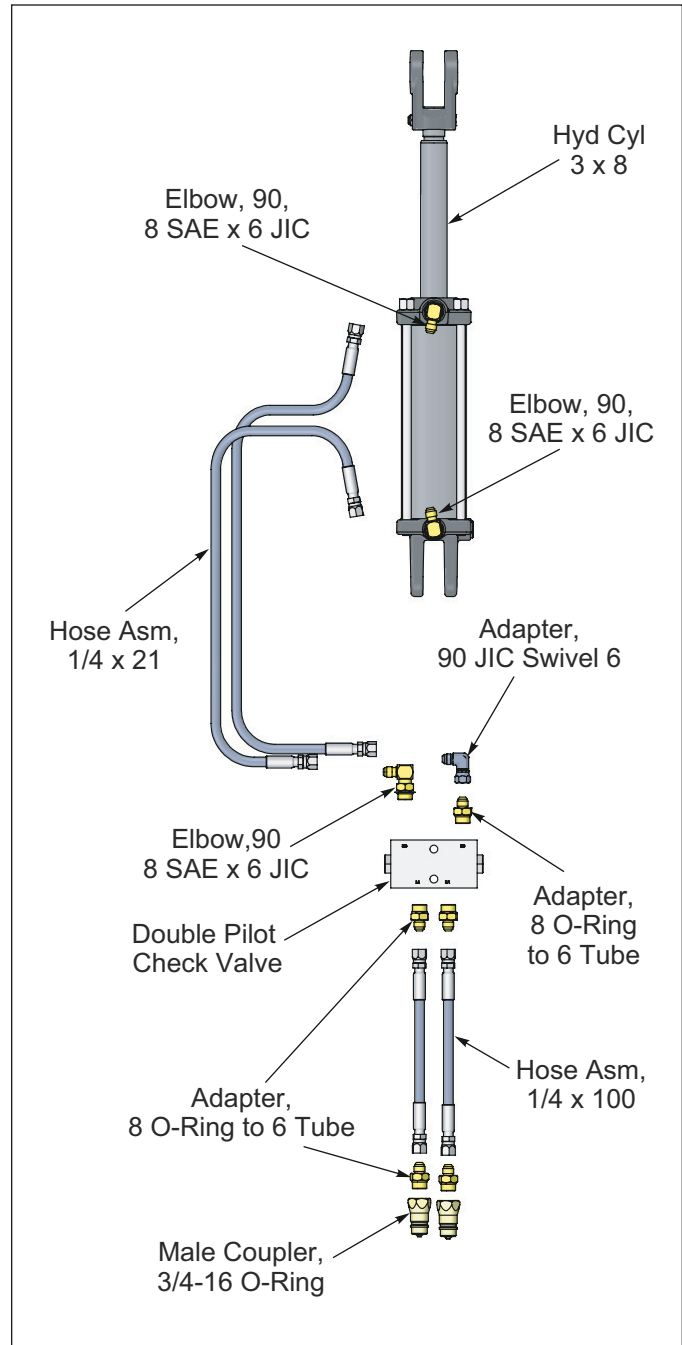

Figure 2-10: Drawbar w/ Hydraulic Jack Installation
6. Install Double Pilot Check Valve Fittings. **See Figure 2-10.**